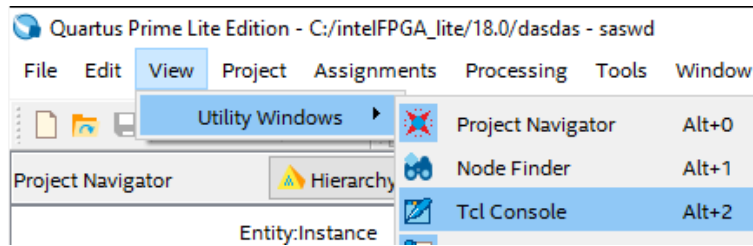

Figure 8: Utility Windows dropdown
- Some windows may not be shown by default. To customize what windows are shown, click on the **View** tab and look under the **Utility Windows** drop down as seen in Figure 8.